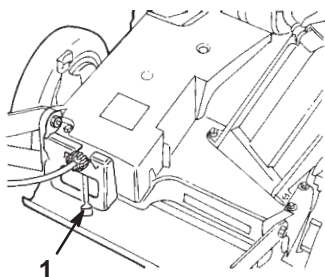

Figure 12
4. Move the ground speed control to the **N** (Neutral) position (Fig. 12).
The lawn mower has 3 ground speeds. **1** is slow, **2** is medium, and **3** is fast. The ground speed control is located at the rear of the belt cover (Fig. 12).